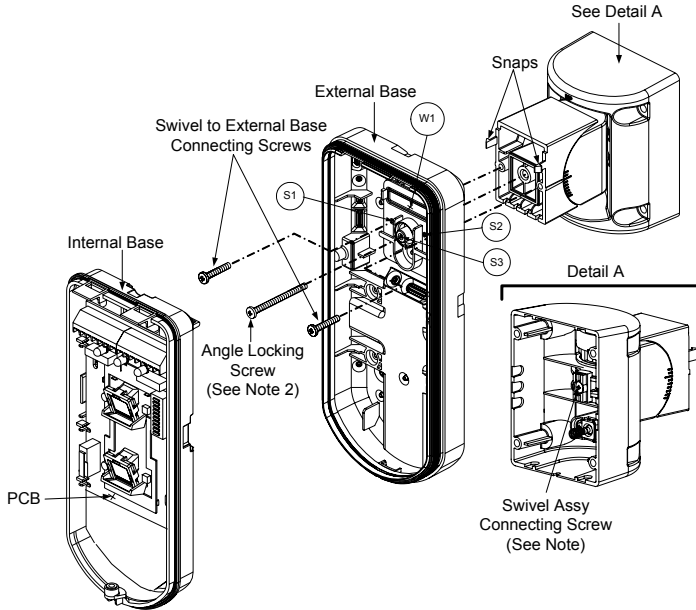

Figure 7
8. Connect the external base to the swivel using the dedicated snaps (Figure 7).
9. Secure external base to swivel with two screws fastened to knockouts S1 and S2 (Figure 7).
10. Insert the supplied angle locking screw from the external base through the angle locking screw knockout S3 on the external base to the standard swivel (Figure 7).
When marks on the two movable parts are aligned (Figure 7), the Standard Swivel is in 0° vertical /horizontal position. Each click from this position represents shifting of 5° in vertical / horizontal position.